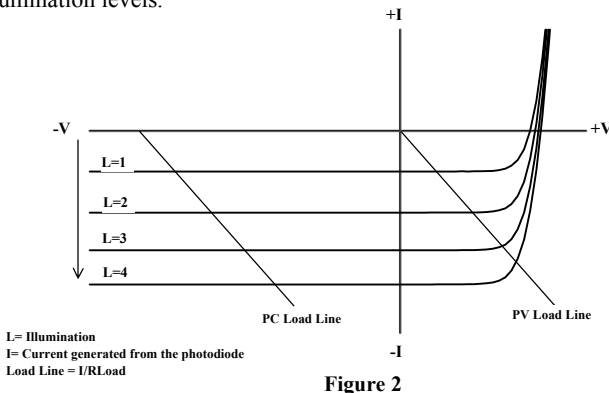

Figure 2
When a photodiode is operated in a photovoltaic mode, the photodiode is unbiased. During the time that the photodiode operates with a reverse bias voltage, the operating mode is considered photoconductive. Figure 2 shows a typical I-V curve for a silicon photodiode. This graph indicates the increase in relative current to the increase in illumination at V=0 (short circuit current). The illumination curves are linear to input light intensity until the photodiode becomes forward biased, at this point the generated current starts to flow through the diode. Photodiode open circuit voltage is where I=0 on the illumination curve (diode is forward biased) and varies as the logarithm of the illumination level. Both the photovoltaic load (PV) and the photoconductive (PC) load lines are indicated in figure 2 as well. As shown, the PV load line indicates a linear current vs. illumination is generated for illuminations L=1 and L=2; while the PV load line indicates a non-linear current vs. illumination for L=3 and L=4 as the diode becomes forward biased. The PC load line will maintain a linear current vs. illumination for all illumination levels.